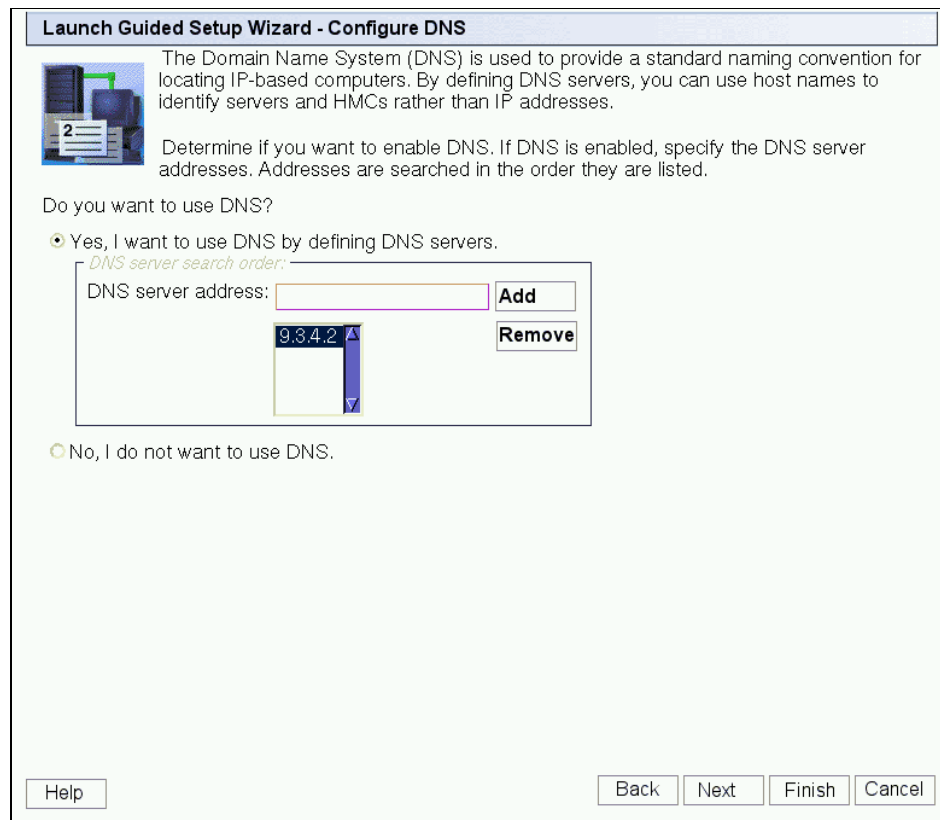

Figure 3-30 Launch Guided Setup Wizard - Configure DNS
23. The Launch Guided Setup Wizard - Configure DNS panel displays now (Figure 3-30).